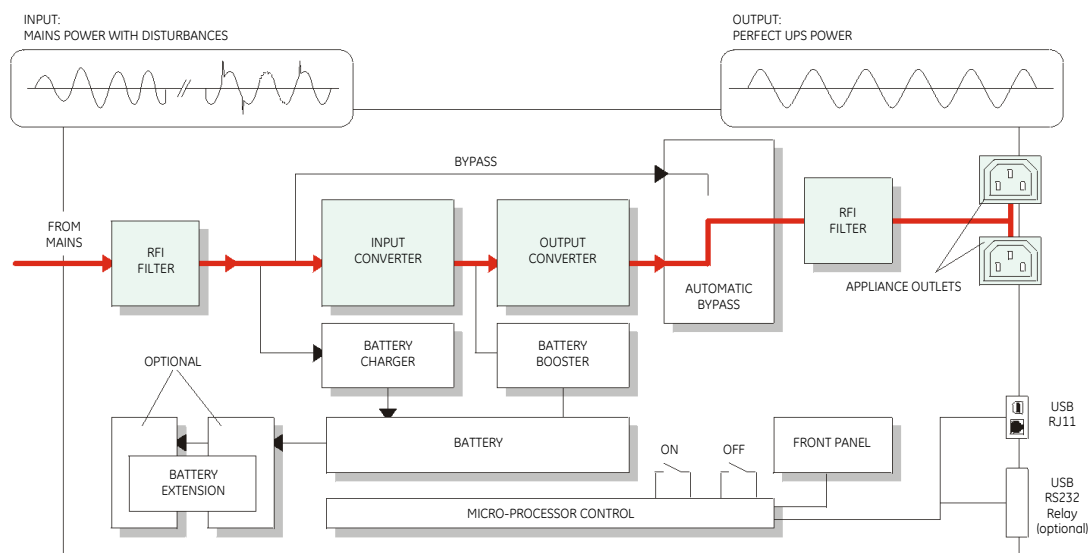

Figure 1 Block diagram of the VH - 700-2000 UPS, mains present
The UPS stores electric energy in batteries housed in the unit. This allows the UPS to supply output power even when the incoming mains power is cut off completely. Energy is stored as Direct Current (DC), while input and output energy are Alternating Current (AC) in sine wave form. Therefore the UPS contains an input converter (AC to DC) and an output converter (DC to AC) (See fig.1).